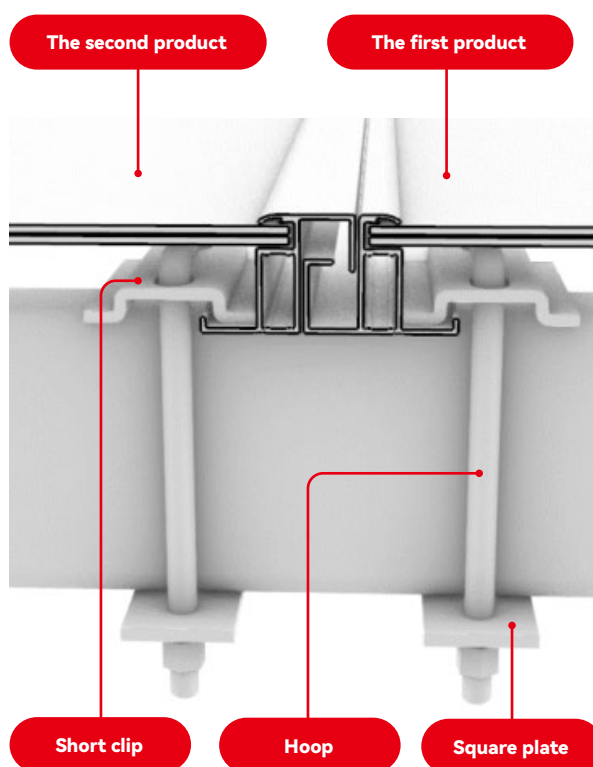

FIGURE 18
- Install the upper fastener assemblies on the upper right side of the second product, as shown in the section view in Figure 18;